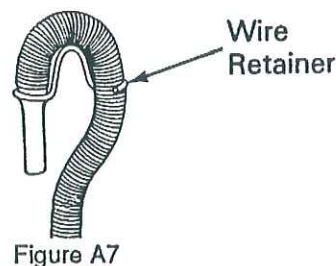

Figure A7
6. Form a U shape in the end of drain hose with the hose pointed toward the drain. Assemble the wire retainer on the hose in that position (Figure A7).